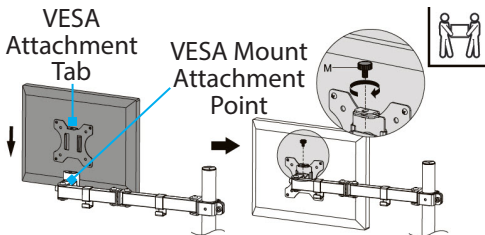

Figure 7
1. Tighten the **Tilt Tension Adjustment Screw**, located on the side of the **VESA Mount Attachment Point**, using the **6 mm Hex Key (Q)**, to prevent unwanted forward tilting of the **Monitor**.
2. Align the hole in the **VESA Attachment Tab**, located on the **VESA Mount (A)**, with the hole in the **VESA Mount Attachment Point**, located on the **Arm (B)**. (Figure 7)